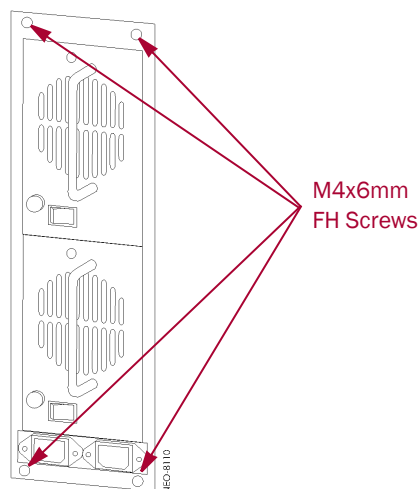

Figure 3-11: Robotics Power Supply Bay Screws
3. **Remove** the four M4x6mm FH screws on the Robotics Power Supply bay (see Figure 3-11).